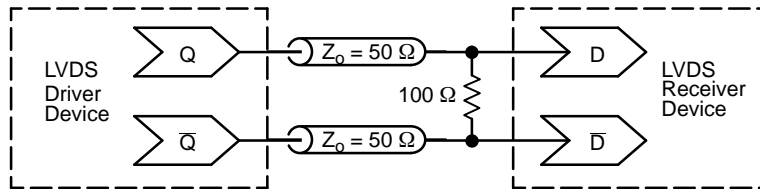

Figure 14. Typical LVDS Termination for Output Driver and Device Evaluation
5. LVDS outputs require  $100\ \Omega$  receiver termination resistor between diff. pair. See Figure 14.